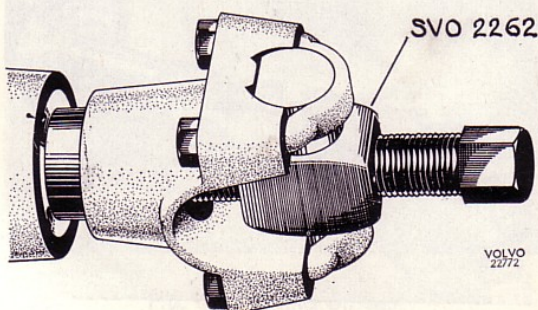
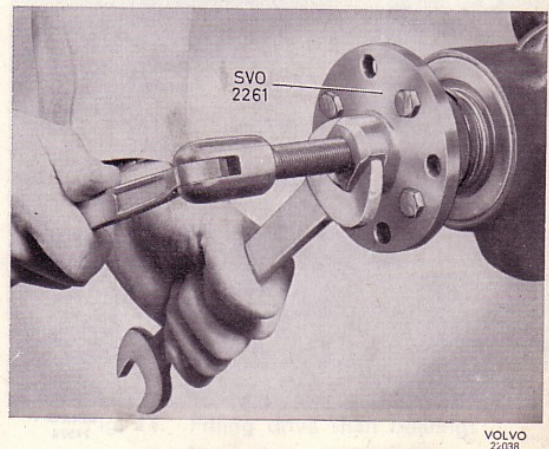
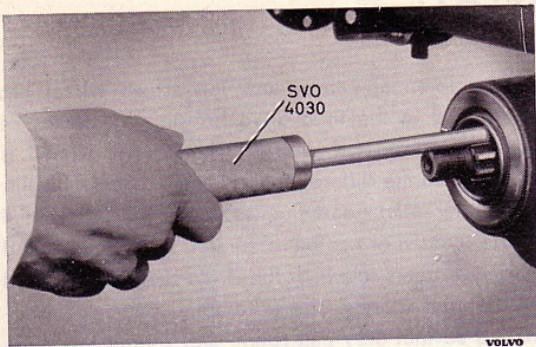

Fig. 4. Removing flange
Fig. 5. Removing flange
Fig. 6. Removing oil seal
2. Remove the flange nut by using lever SVO 2409 as a counterhold. Pull off the flange with tool SVO 2262 for the u-flange (Fig. 4) and tool SVO 2261 for the round flange (Fig. 5). Remove the old oil seal by using tool SVO 4030 as shown in Fig. 6.